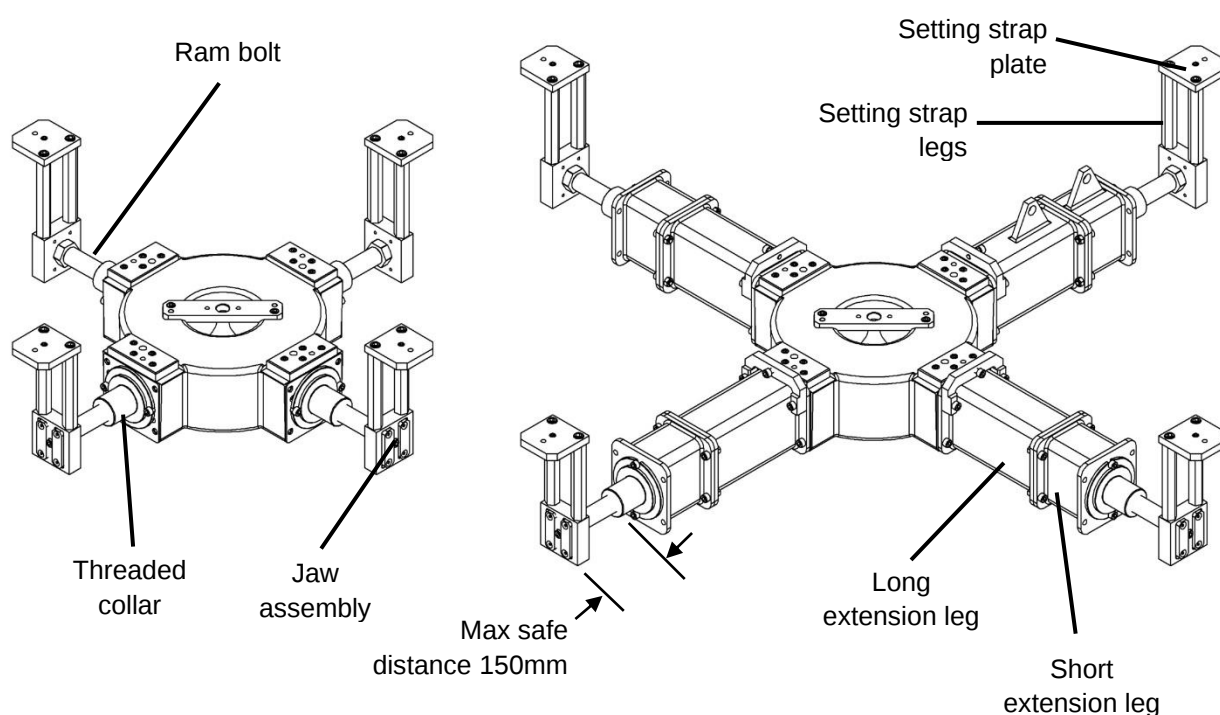

Fig. 12 Mounting base assembly
4. Fit the four jaw assemblies into the threaded collars and screw each ram bolt (Fig. 12) to the desired distance. Do not exceed the maximum distance X.